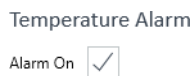

Figure 85. Temperature Alarm
- 1 Check the **Alarm On** box in the Tray Temperature window. (See Figure 85.)